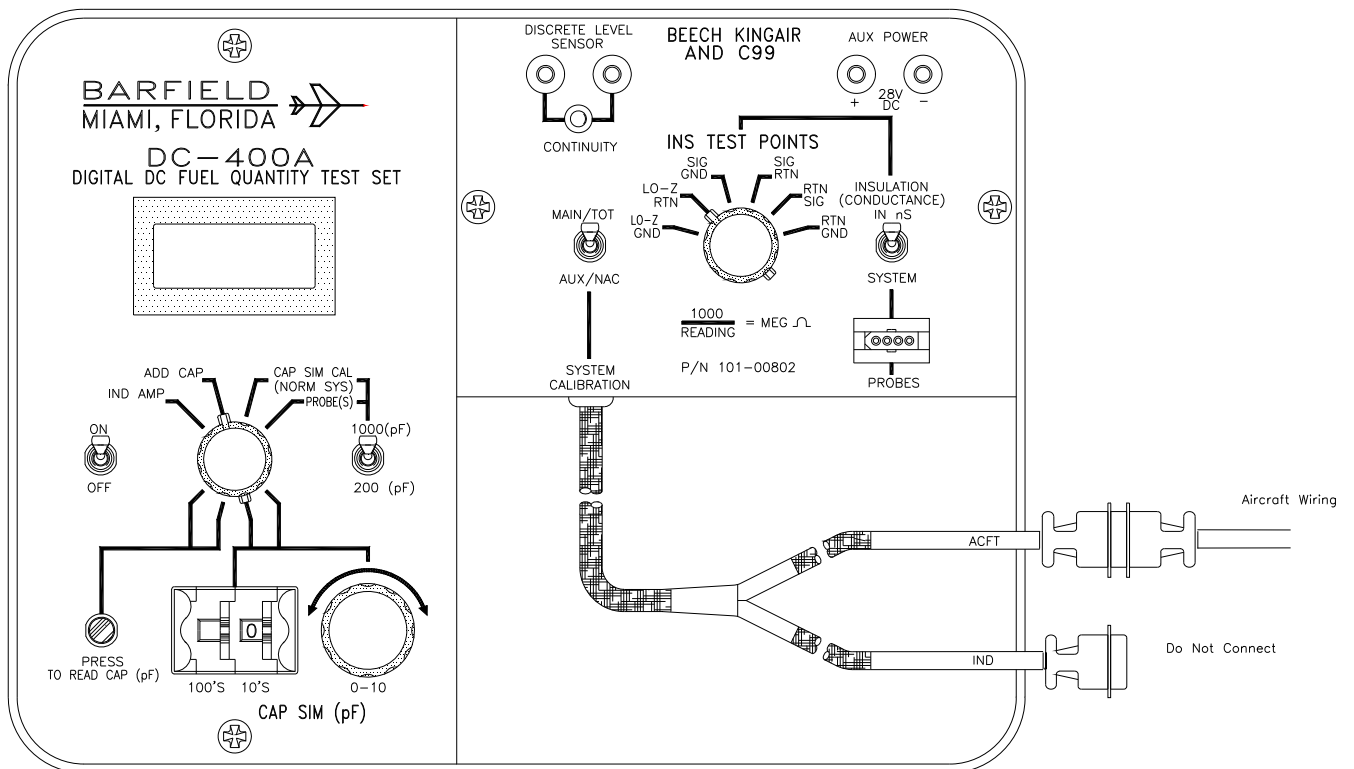

Figure 1 Insulation Test Connector Setup
- (1) Set up the test set (T/S) as shown in Figures 1 and 2.
- (2) Connect the test set ACFT connector to the aircraft wiring plug removed from the indicator.
- (3) Connect the test set ACFT connector to the ACFT connector of the adapter cable.
- (4) Do not connect the test set IND connector of the adapter cable.
- (5) Do not connect the test set IND connector.